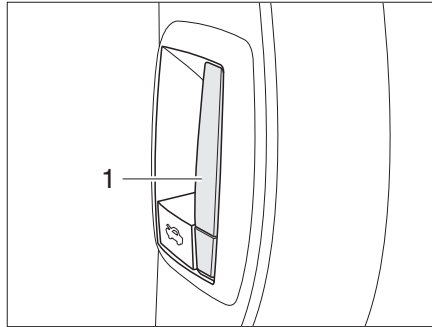

Fig. 28 Release knob on the inside of the bonnet
- Pull the lever (Fig. 28,1) situated on the left-hand side of the vehicle on the dashboard. The bonnet opens as far as the safety hook allows.